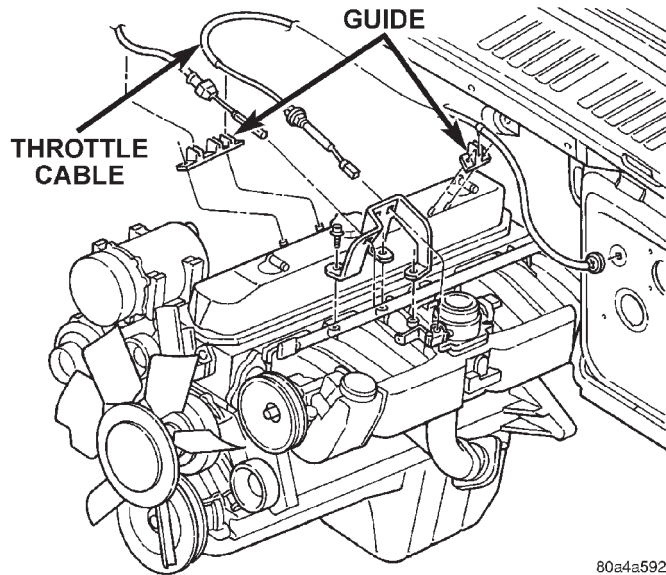

Fig. 39 Throttle Cable Routing
(4) Remove cable from clip guides on engine cylinder head (valve) cover (Fig. 39).